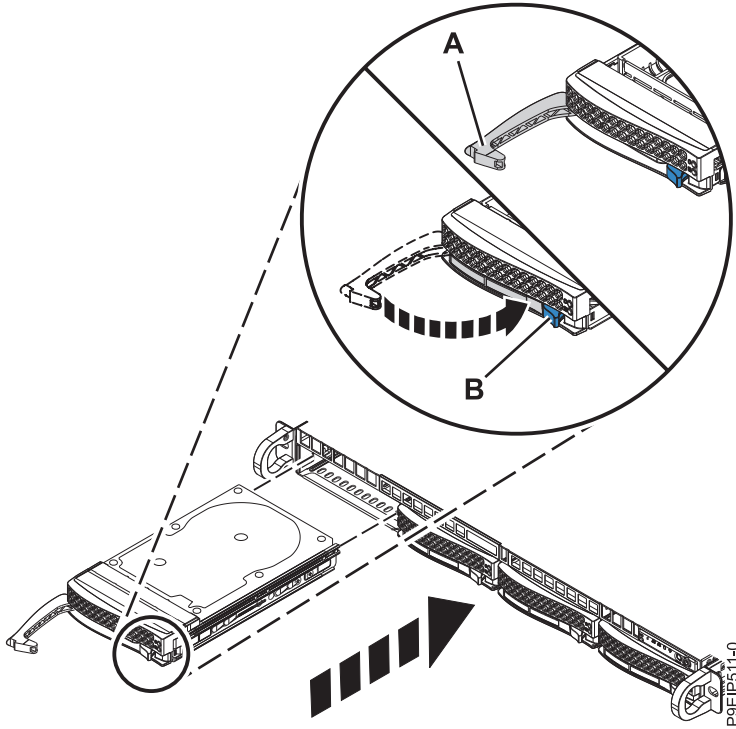

Figure 9. Disk drive lock detail
7. Lock the drive bay handle (A) by pushing in the handle release as shown in Figure 9 on page 12.